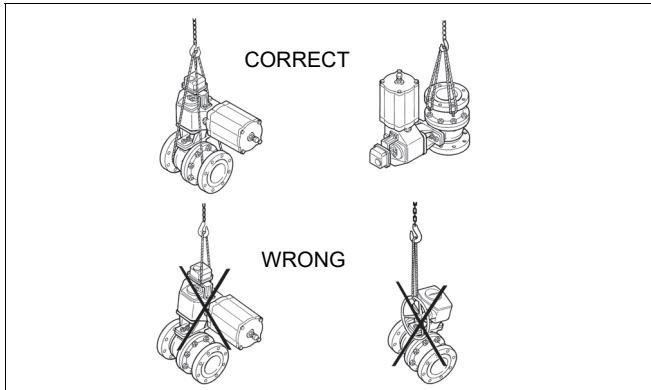

Fig. 5 Lifting the valve
Never lift the valve or valve package by the actuator, positioner, limit switch or their piping. Place the lifting ropes securely around the valve body (see Fig. 5). Damage or personal injury may result from falling parts.
- Support the valve carefully with a hoist. Place ropes carefully and unscrew the pipe flange bolts. See that the ropes are positioned correctly, see Fig. 5. Lift valve down.
- Place the valve in a standing position on the pipe flange end. Use a level surface that will not scratch the flanges. See that the body stud nuts (16) are facing upward.
- Remove the key (10).
- Unscrew the gland nuts (18). Remove the the disc spring sets (150), washers (150B), anti static springs (150C), the gland (9), retainer ring (42) and anti extrusion ring (9A).
- Unscrew the body stud nuts (16).
- Remove the body cap (2). If the seat (7) is not lying on the ball (3), prevent the seat from falling from the body cap and detach it later. **Don't leave your fingers between the body cap and the surface!**